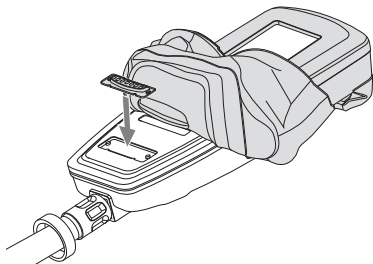

Fig. 53 Fitting the LED protective cover
10. Fit the protective cover over the LED panel (Fig. 53).
! Fold the rubber cover fully over the UI module while holding the LED panel in place. Ensure that the cover is orientated as shown, with the notch towards the bottom of the screen and the part number facing upwards (Fig. 53).